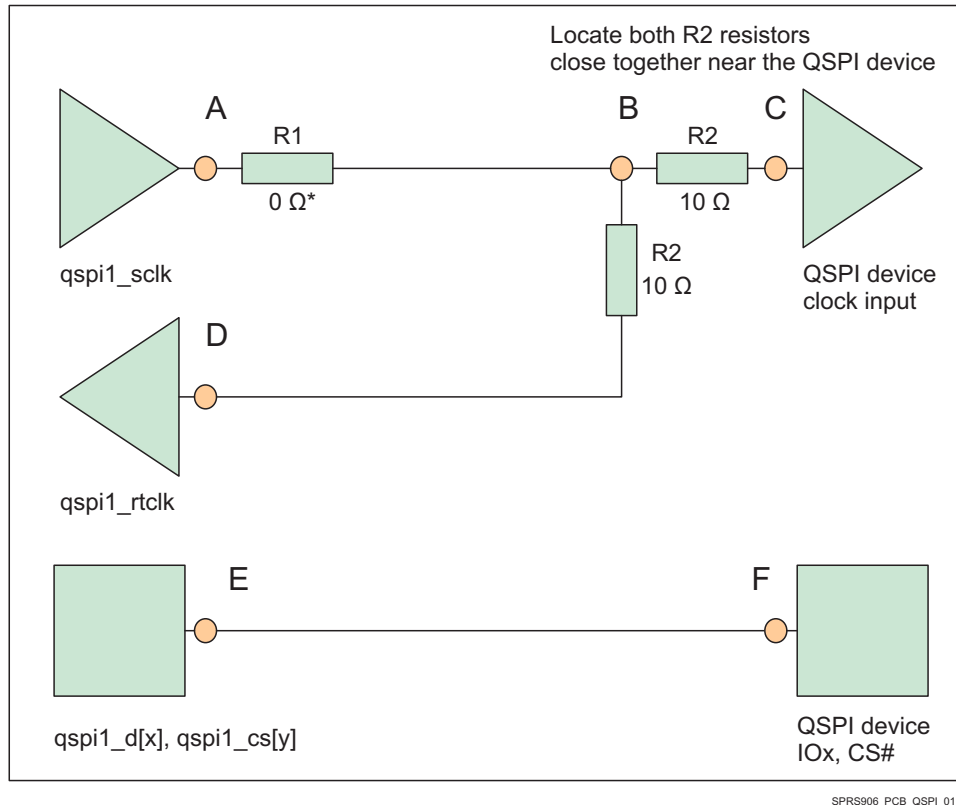

Figure 7-29. QSPI Interface High Level Schematic
- 50 Ω PCB routing is recommended along with series terminations, as shown in Figure 7-29.